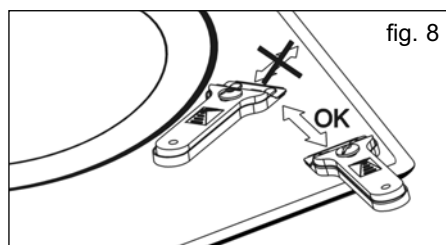

fig. 8
**If you do not use the scraper properly, the blade could break and pieces may get stuck between the decorative side-piece and the glass. If this happens, do not try to remove the pieces with your hand - use pliers or a sharp-pointed knife. (See fig. 8)**